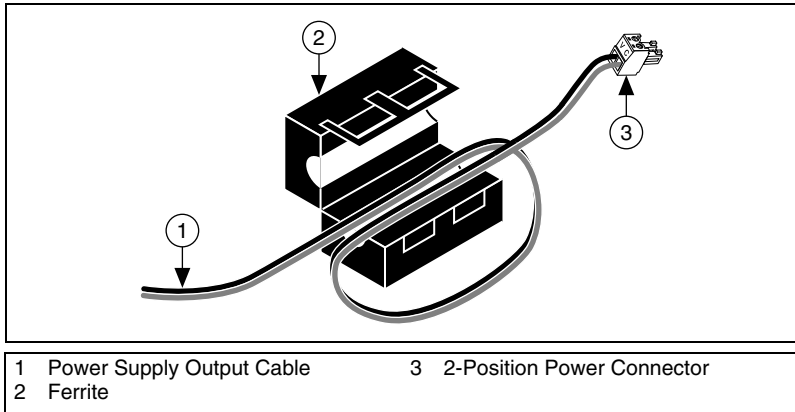

**Figure 2.** Removing the 4-Position Power Connector from the Power Supply
To connect power for the isolated outputs to the NI 8254R, refer to Figures 2 through 6 while completing the following steps:
1. If you are using the NI desktop power supply, remove the 4-position power connector connected to the power supply, shown in Figure 2.